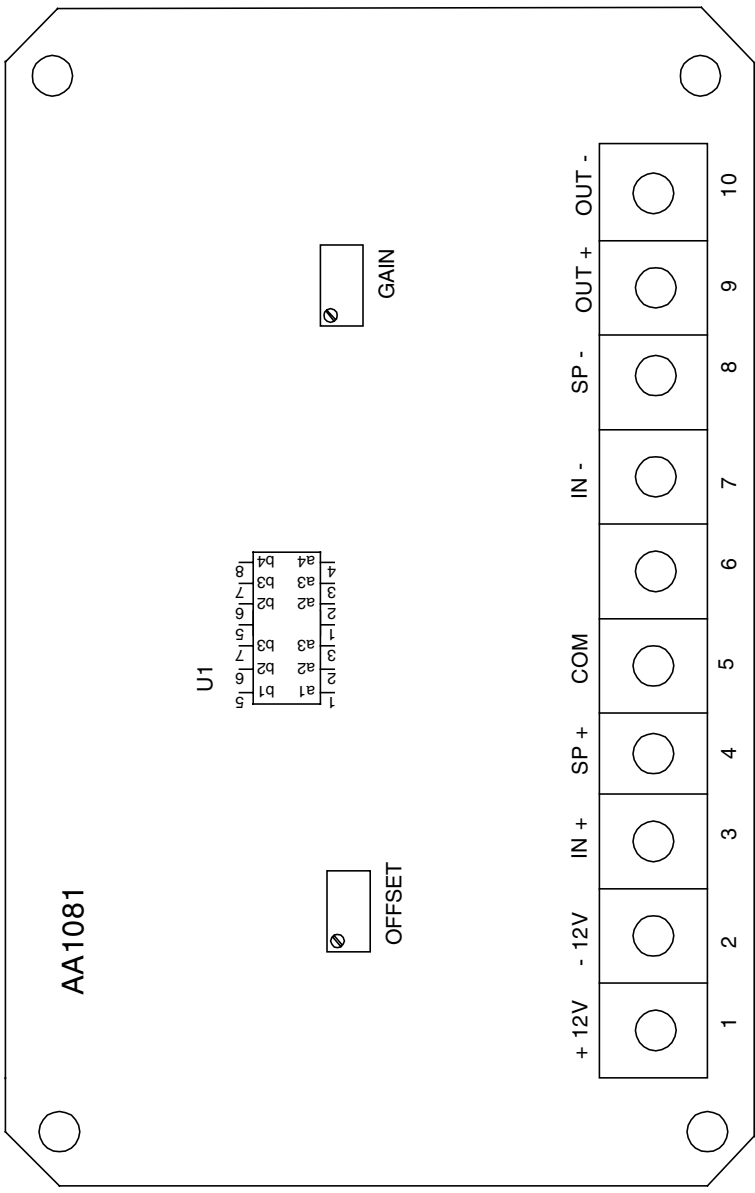
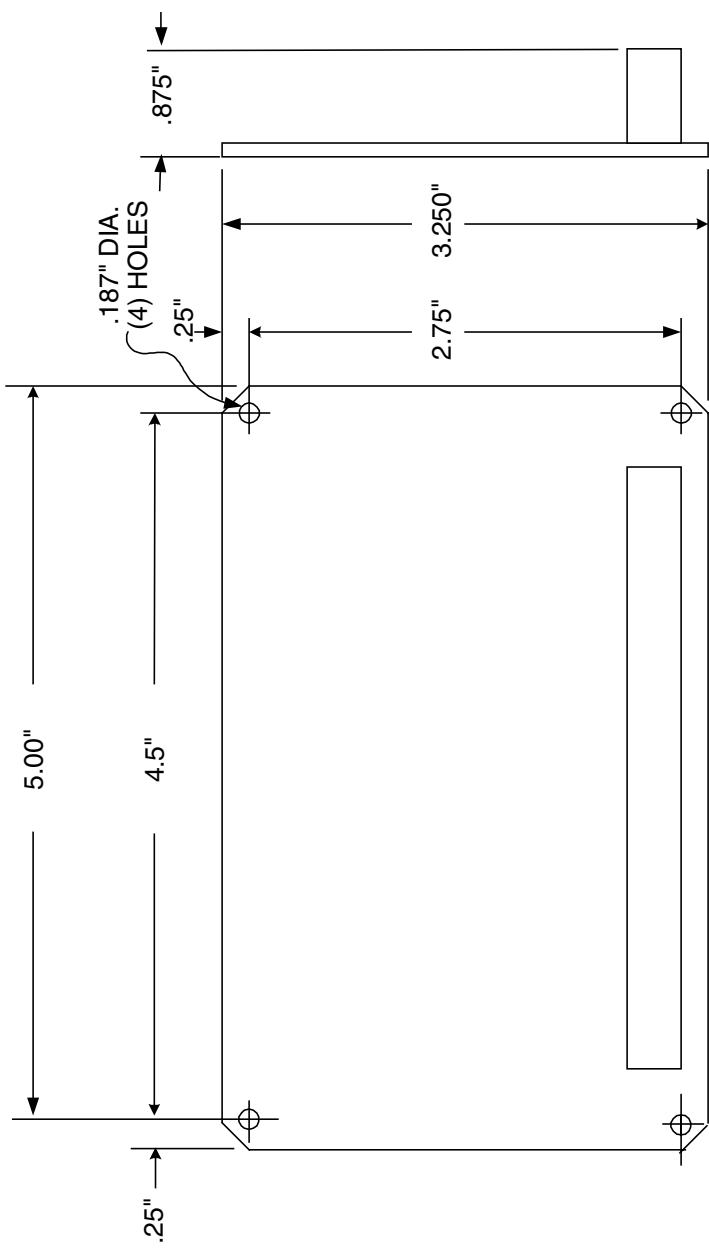

FIGURE 1A - AA1081 INVERTER/BUFFER SYSTEMS CARD
FIGURE 1B - AA1081 DIMENSIONS
**Before attempting any installation make sure that all power is turned off to the equipment being worked on.** The AA1081 card is a stand alone module and can be mounted in a variety of ways. It should be mounted in a protective enclosure which is well ventilated. Four mounting holes are provided as shown in Fig. 1B for use with stand-offs. Referring to Fig. 1A, make all external connections using shielded twisted wire. **All wiring should be in accordance with good standard practices and any codes that may apply.**